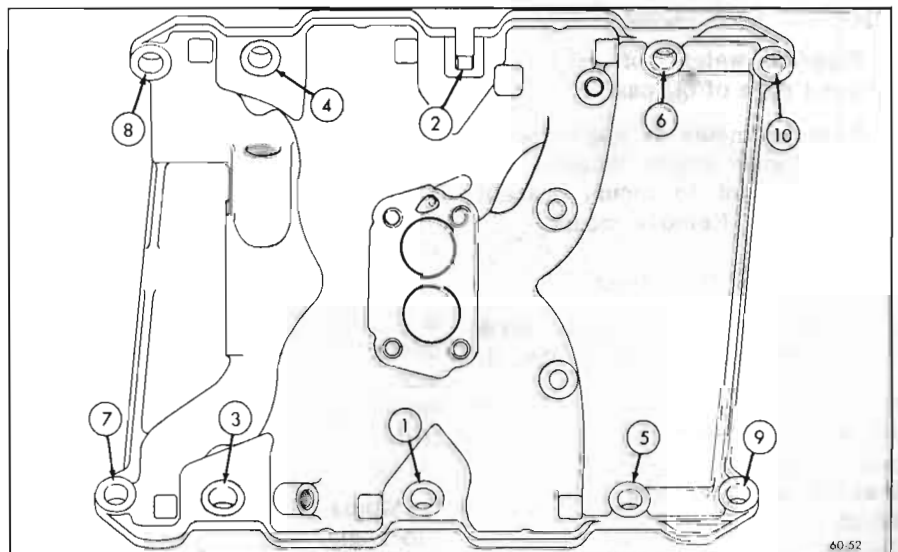

Figure 60-52—Intake Manifold Bolt Tightening Sequence
2. When installing a manifold, start with the #1 and #2 bolts. See Figure 60-52. Gradually tighten
both bolts until snug. Then continue with the rest of the bolts in the sequence illustrated in Figure 60-52.